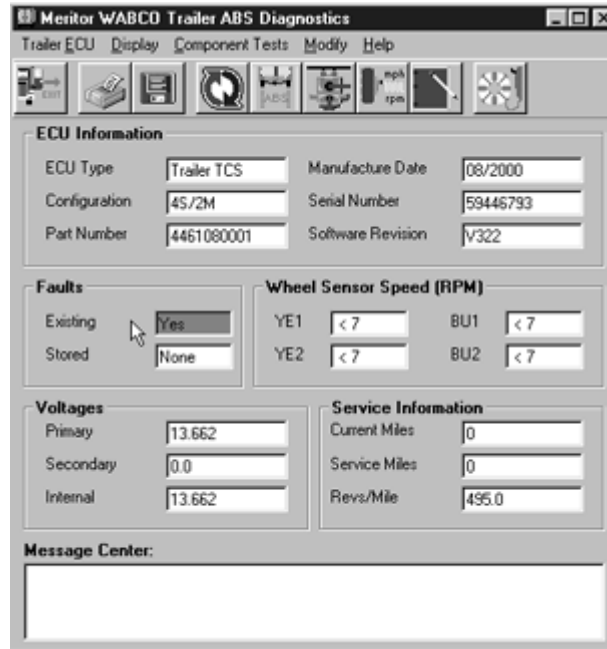

Figure 2-22: Meritor WABCO Trailer ABS Diagnostics Screen
- Apply 12 volts DC to the blue wire (constant). Check the screen for proper voltage (9.5 to 14 volts). Constant power voltage is displayed in the **Primary** field. See Figure 2-22.
- Apply 12 volts DC to the red wire (stoplight power). Check the screen for proper voltage (9.5 to 14 volts). Stoplight power voltage is displayed in the **Secondary** field. See Figure 2-22.